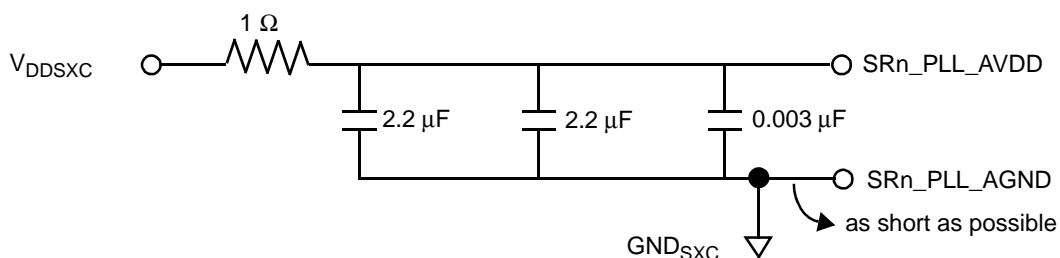

Figure 38. SerDes PLL Supplies
- Couple inputs SR1_PLL_AVDD and SR2_PLL_AVDD with SXCVDD1 and SXCVDD2 power rails, respectively, using an RC filter (see Figure 38).
Each SerDes PLL power supply must be filtered using a circuit similar to the one shown in Figure 38, to ensure stability of the internal clock. For maximum effectiveness, the filter circuit should be placed as closely as possible to the SRn_PLL_AVDD ball to ensure it filters out as much noise as possible. The ground connection should be near the SRn_PLL_AVDD ball. The $0.003\ \mu F$ capacitor is closest to the ball, followed by the two $2.2\ \mu F$ capacitors, and finally the $1\ \Omega$ resistor to the board supply plane. The capacitors are connected from SRn_PLL_AVDD to the ground plane. Use ceramic chip capacitors with the highest possible self-resonant frequency. All trances should be kept short, wide, and direct.